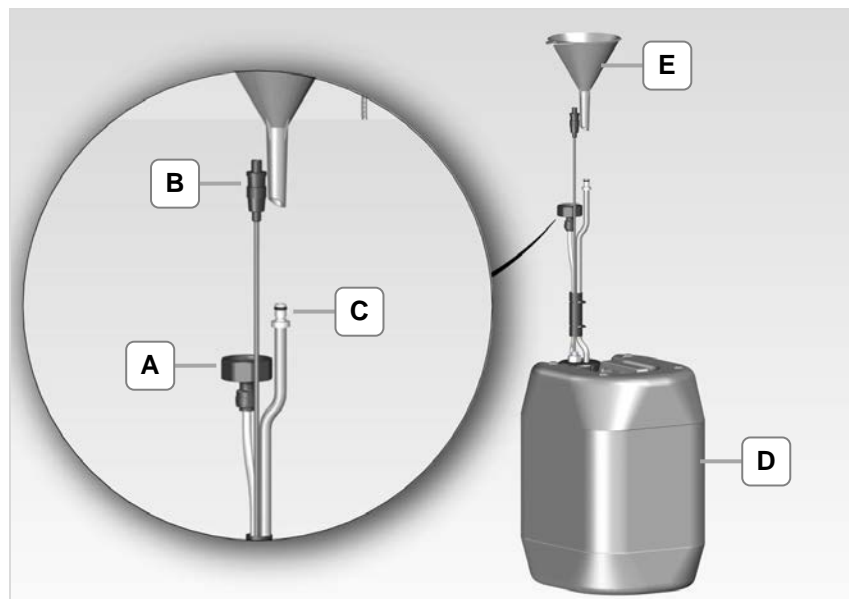
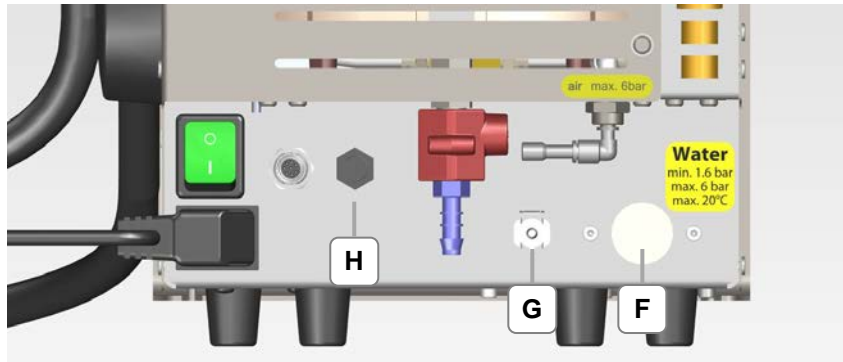
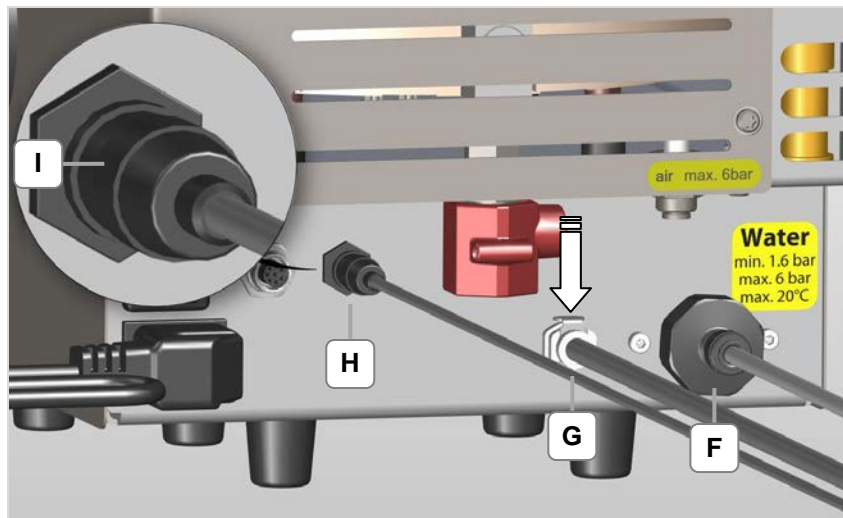
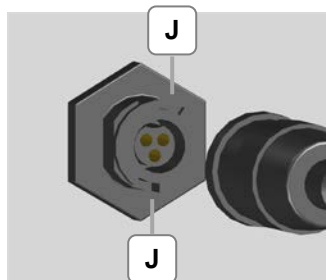

Figure 4.5.1: Canister with accessories
Figure 4.5.2: Connections for the canister (rear side of the device)
Figure 4.5.3: Connections for the canister connected
Figure 4.5.4: Plug alignment (J)
1. Screw on the screwed thread (Figure 4.4.1-A) of the water hose onto the water connection of the device (Figure 4.5.2-F). Inspect whether the seal is positioned correctly in the screwed thread (Figure 4.5.1-A).
2. Connect the cable connector (Figure 4.5.1-B) for the fill level monitoring to the connection (Figure 4.5.2-H) and turn the front cap (Figure 4.5.3-I) until it locks. Observe the plug direction (Fig 4.5.4-J).
3. Insert the ventilation hose (Figure 4.5.1-C) into the connector (Figure 4.5.2-G).
- Ensure when connecting the ventilation hose that the locking lever (Fig 4.5.3-G) points downwards in the direction of the arrow!